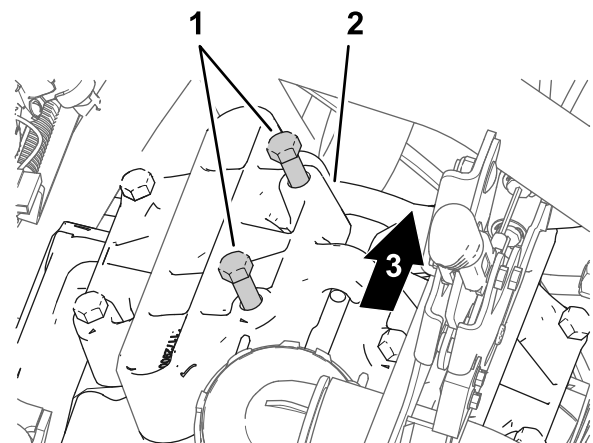

Figure 175
1. At the pump head located at 11 o'clock position, loosen the 2 bolts as shown Figure 175 to provide a 7 to 10 mm (1/4 to 3/8 inch) gap between the head of the bolts and the pump.